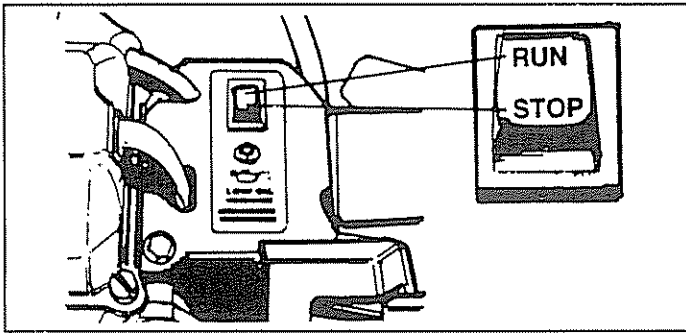

FIG. 20
- Locate the Run/Stop switch (Fig. 20 on Page 13) next to the engine cylinder head and set it to RUN.